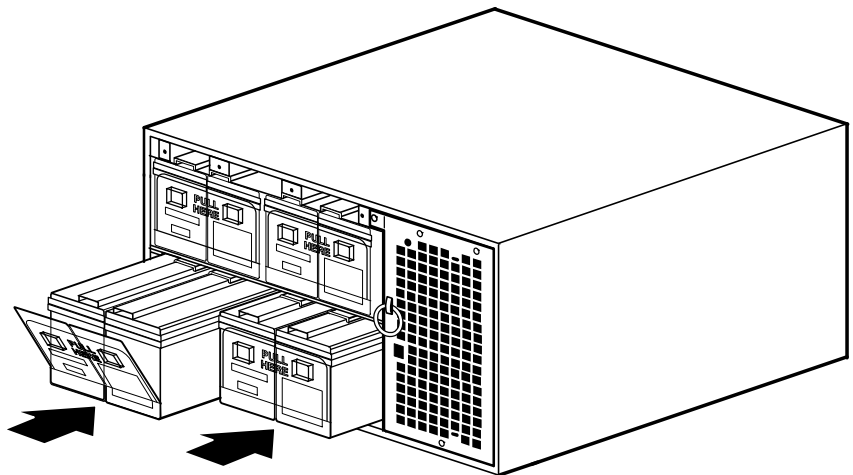

Figure 57. Installing the UPS Battery Trays
- Slide the new battery trays into the cabinet (see Figure 57). Verify that each tray is properly aligned before sliding the tray in.